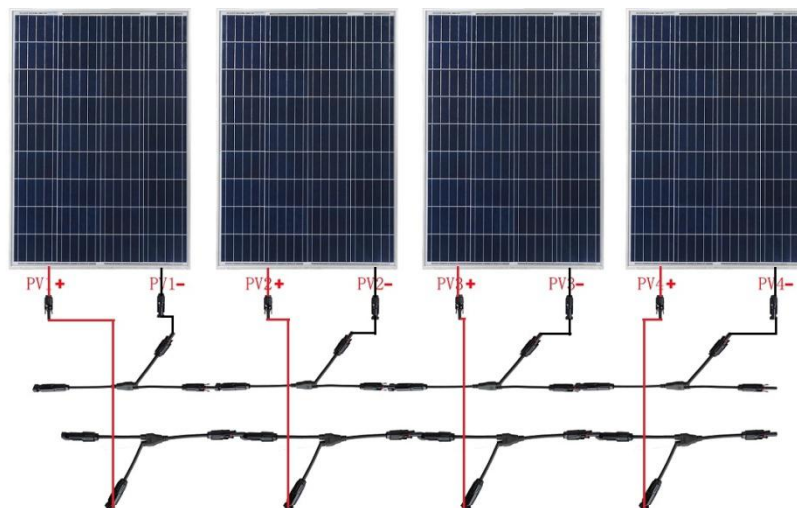

Figure 7.2.4
Step 4: Connect all 4 pcs solar panels in parallel. Figure 7.2.4